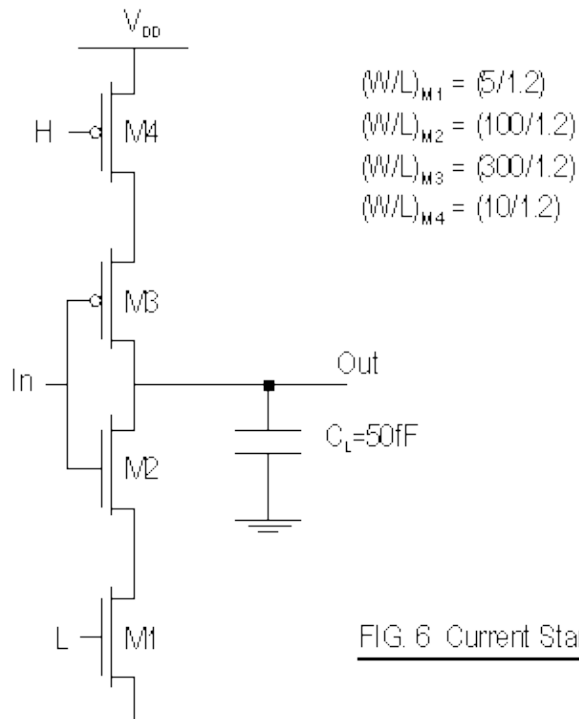

FIG. 6 Current Starved Inverter
a) For the design of the voltage controlled oscillator, engineer Amanda Lee initially decides she will use a ring oscillator. After quite a number of hours, she decides that 5 stages is the right number for her. The oscillation frequency should be 5 MHz for a supply voltage of 3.3V. The basic inverter circuit in the oscillator is shown in FIG. 6. Due to their large sizes, you may consider transistors M2 and M3 to be ideal switches (with **zero resistance**). Determine the DC voltages needed at nodes H and L needed to get the required oscillation frequency. Consider only the capacitance shown in the figure. Ignore the channel length modulation factor. Also make sure that rise and fall times are identical.